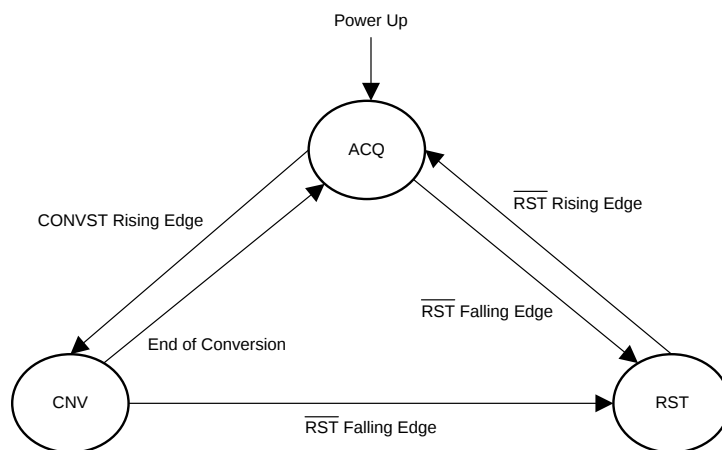

**Figure 37. Interface Module**
The interface module facilitates the communication and data transfer between the device and the host controller. As shown in Figure 37, the module consists of shift registers (both input and output), configuration registers, and a protocol unit.
- The device takes control of the data bus. As shown in Figure 43, the 22-bit contents of the output data word (see Figure 41) are loaded in to the 22-bit output data register (ODR; see Figure 37).
- The 22-bit input data register (IDR; see Figure 37) is reset to 000000h, corresponding to a NOP command.
- As illustrated in Figure 43, the 22-bit contents of the IDR are transferred to the command processor (see Figure 37) for decoding and further action.